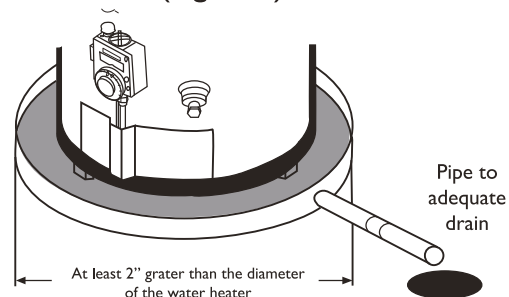

Figure 1
- A suitable drain pan must be installed under the heater. Such pans must have a minimum length and width of at least two inches greater than the diameter of the heater, and must be piped to an adequate drain. The pan must not restrict combustion air flow (Figure 1).